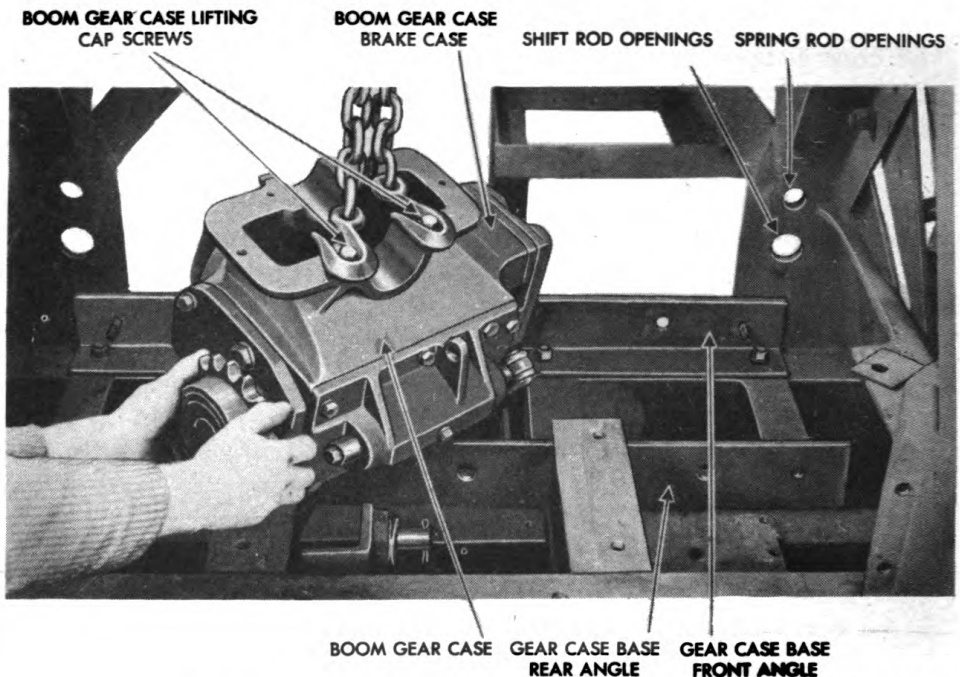

Figure 15 — Lifting Boom Gear Case
n. Remove Boom Gear Case (fig. 15). Remove one $\frac{7}{8}$ -inch bolt, nut, and lock washer and remove one $\frac{1}{2}$ -inch nut and lock washer attaching the boom gear case to the forward base angle. Install two $\frac{7}{16}$ -inch cap screws in gear case and running a bridal chain through the A-frame top plate, hook onto the gear case. Remove the lock and adjusting nuts, spring washer and spring from brake band and slide band end back into the brake case. Push the gear case to the rear of the vehicle until the shift control links are free of the crane frame and raise gear case high enough to clear boom pivot base angles and then as the chain hoist is lowered pull the gear case forward onto the boom pivot base plate and remove from vehicle.